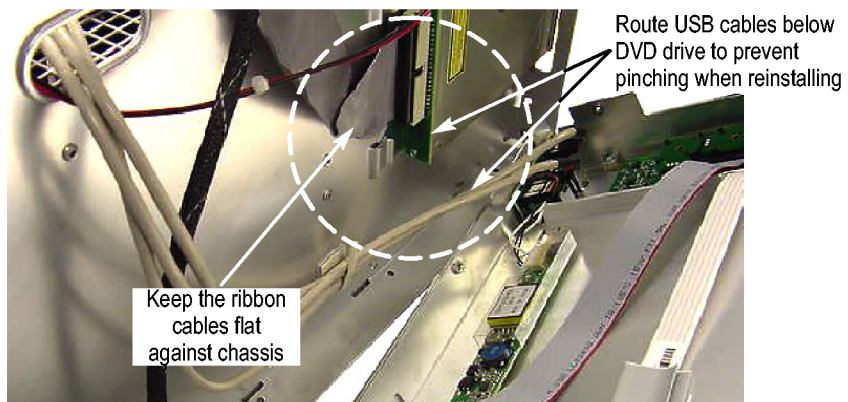

Figure 6: Dress the cables properly
- To avoid damaging the USB and DVD cables, dress the cables properly just before you attach the new display assembly to the chassis. (See Figure 6.)